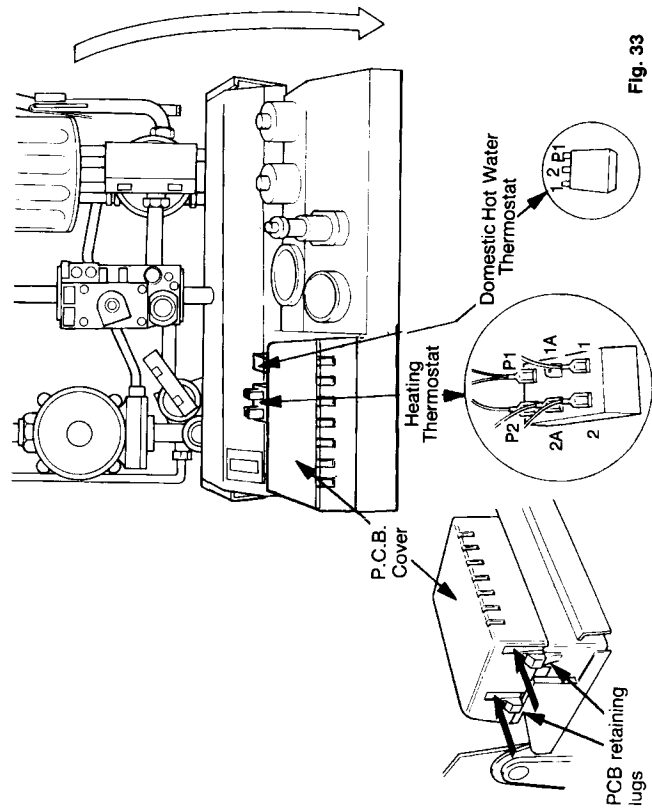

Fig. 33
- 8.22.23** Refer to figs 33 & 34 to ensure correction location of thermostat and push-on wiring tabs.
Refer to fig 33
- 8.22.30** Refer to fig. 33 to ensure correct location of thermostat and push on wiring tabs. Orange wire to terminal 2. Red wire to terminal P1
Refer to fig. 33
- 8.22.32** Press in the sides of the printed circuit board cover (fig. 33) to release retaining clips and lift cover off.
Remove wire on No. 2 terminal of Hot water stat and replace on No. 1 terminal (see fig. 33).